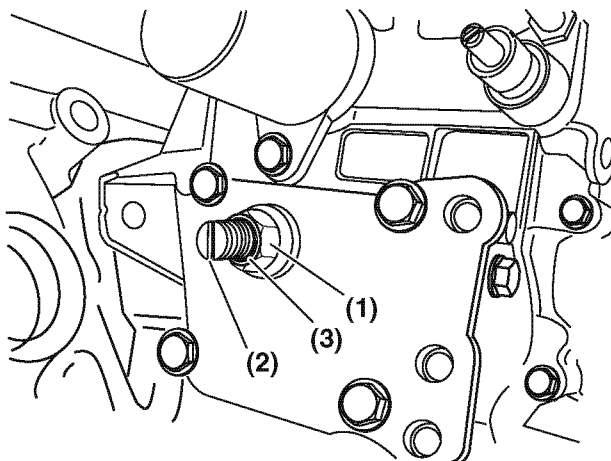

Figure 7-37
3. While holding the adjusting bolt (Figure 7-37, (2)), loosen the locknut (Figure 7-37, (1)) approximately one turn.
8. Install the cap nut, making sure the seal washer (Figure 7-37, (3)) is in place. Tighten the cap nut to 16 to 18 N·m (141 to 159 lb-in.).